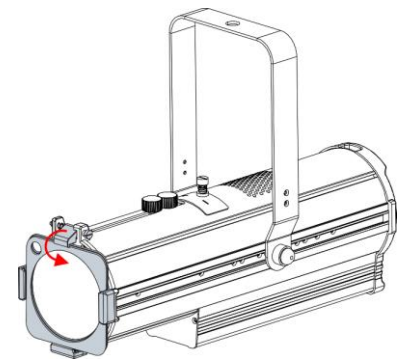

Fig. 16
- 04) Pull the **color frame clip (02)** downwards to release the **spring-loaded screw (01)** (see Fig. 16). The color frame will be locked in position.